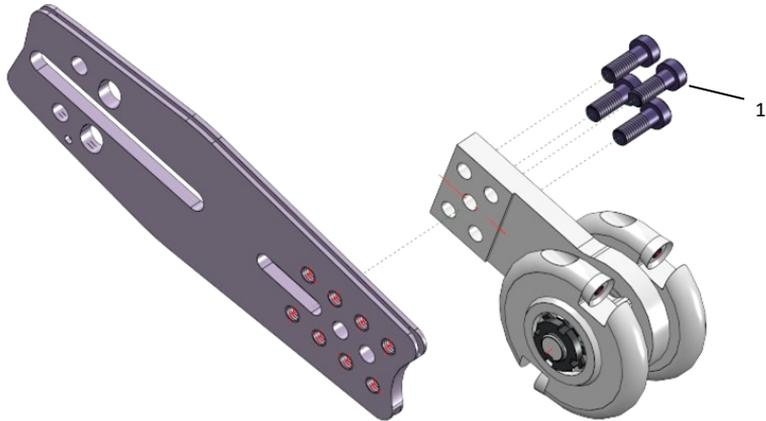

Fig. 7. Mounting the trough cutter ETH-C-Mini
- Mount the trough cutter with the 4 cap screws (1- Fig 7). For most saws, the position of the two middle holes is suitable. If the chain is too short or too long when tensioning it, use one of the other positions.